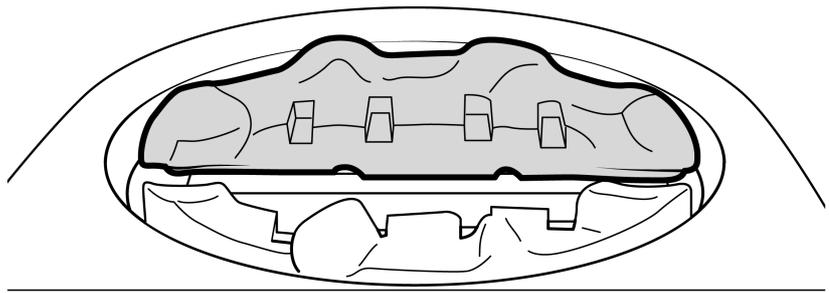

Figure 31 Rear base pebble location
2. The rear base pebble has the letters 'MB' on the underside. Locate the rear base pebble behind the burner (See figure 31)